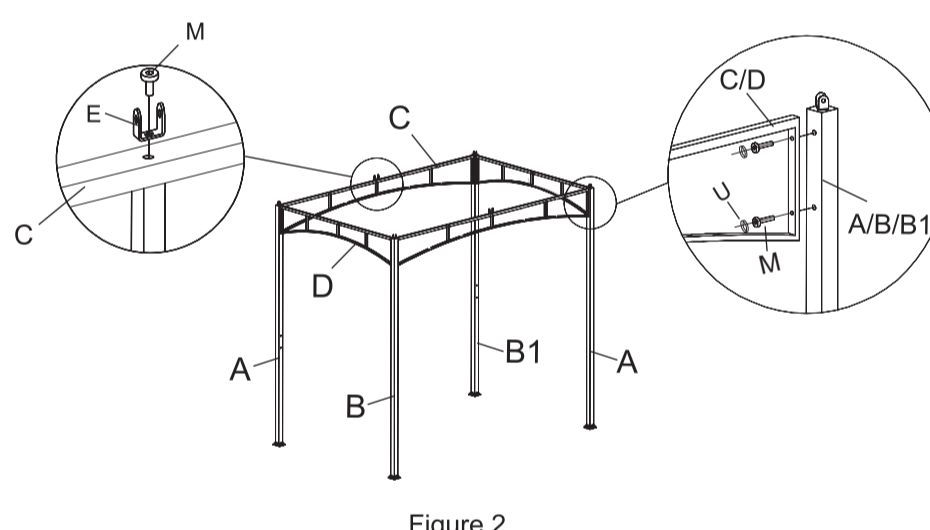

Figure 2
Attach Top Beams (C/D) to each of Pillars (A/B/B1) with Bolt (N) and Bolt Cap (U) as shown in Figure 2. Repeat this step with remaining Long and Short Beams (C/D) until all have been attached.